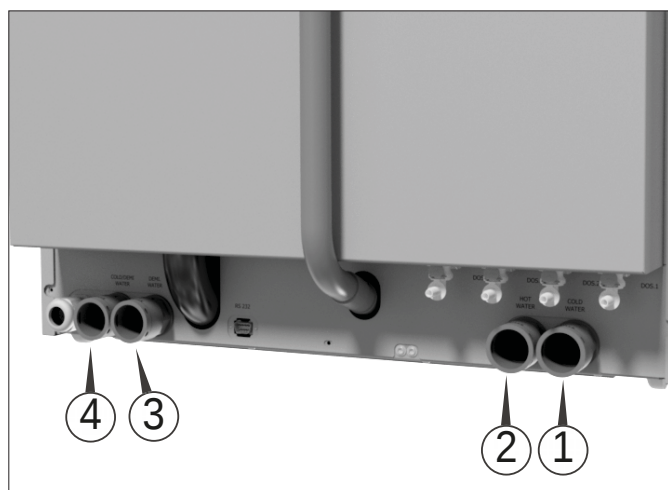

Fig. 9
- Make sure to connect the water flexible hoses in the positions shown in Fig. 9.
- Connect the water flexible hose to connections shown in Fig. 9.
Water connections (Fig. 9)
- 1) Connect the machine to water connections (Fig. 9).